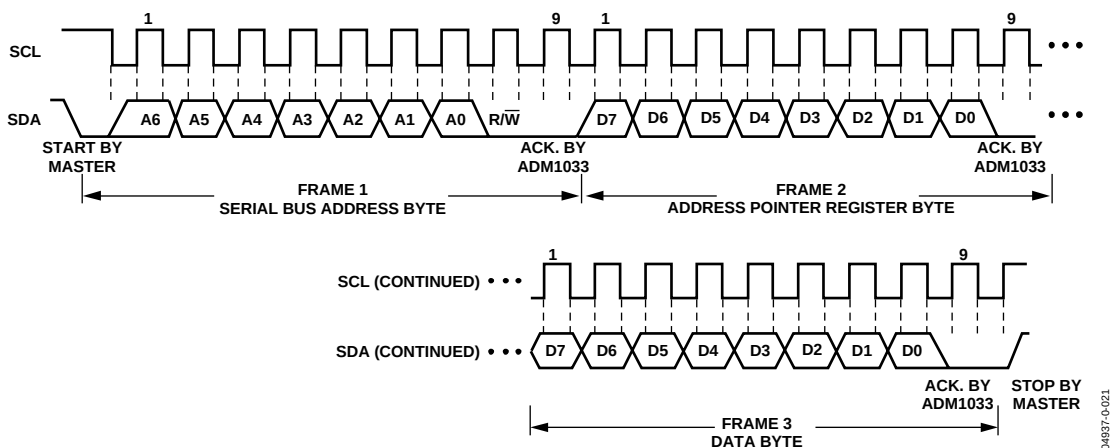
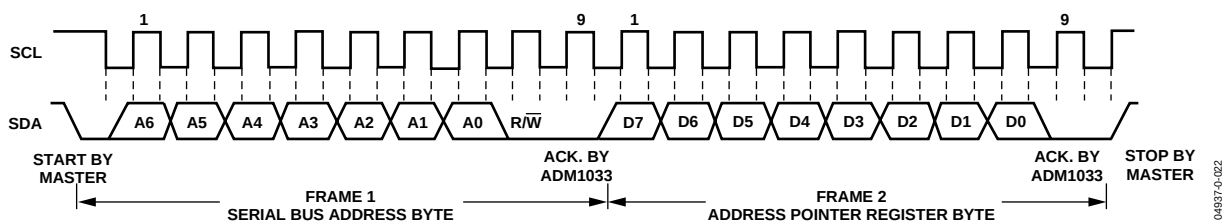
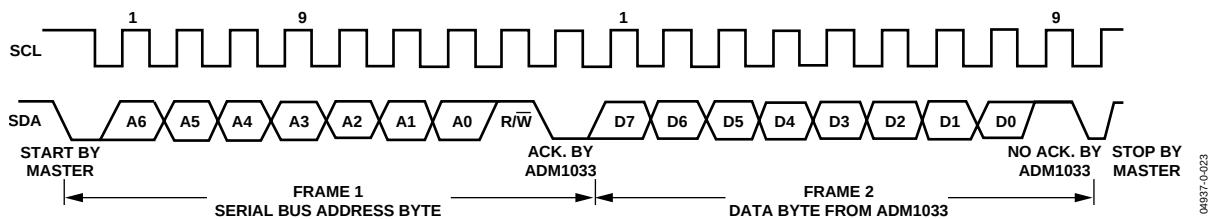

Figure 18. Writing a Register Address to the Address Pointer Register, then Writing Data to the Selected Register
Figure 19. Writing to the Address Pointer Register Only (Send Byte)
Figure 20. Reading Data from a Previously Selected Register
As shown in Figure 18, the device address is sent over the bus, followed by R/W set to 0. This is followed by two data bytes. The first data byte is the address of the designated internal data register, which is stored in the APR. The second data byte is the data to be written to the internal data register.
- If the ADM1033's APR value is unknown or incorrect, it must be set to the correct value before data can be read from the desired data register. To do this, perform a write to the ADM1033 as before; but this time send only the data byte containing the register. (See Figure 19.) A read operation is then performed. With the serial bus address and the R/W bit set to 1, the data byte is read from the data register. (See Figure 20.)
- If the APR is known to be already at the desired address, data can be read from the corresponding data register without first writing to the APR. In this case, Figure 19 can be omitted.
In Figure 18 to Figure 20, the serial bus address is determined by the state of the LOCATION pin on power-up.